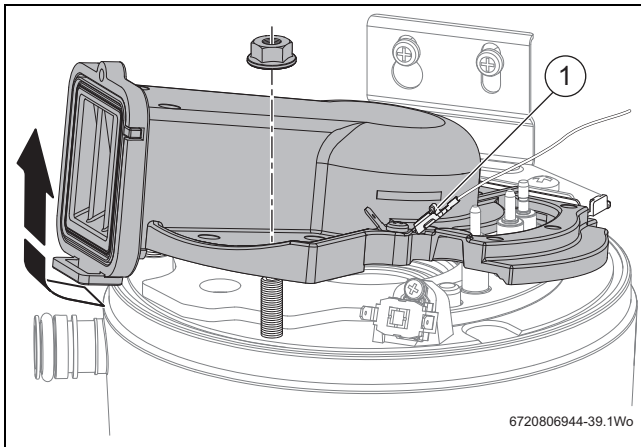

Fig. 78 Air/gas manifold clamping plate removal
Refer to figure 78.
- ▶ Remove the air/gas manifold clamping plate as shown in figure 78.